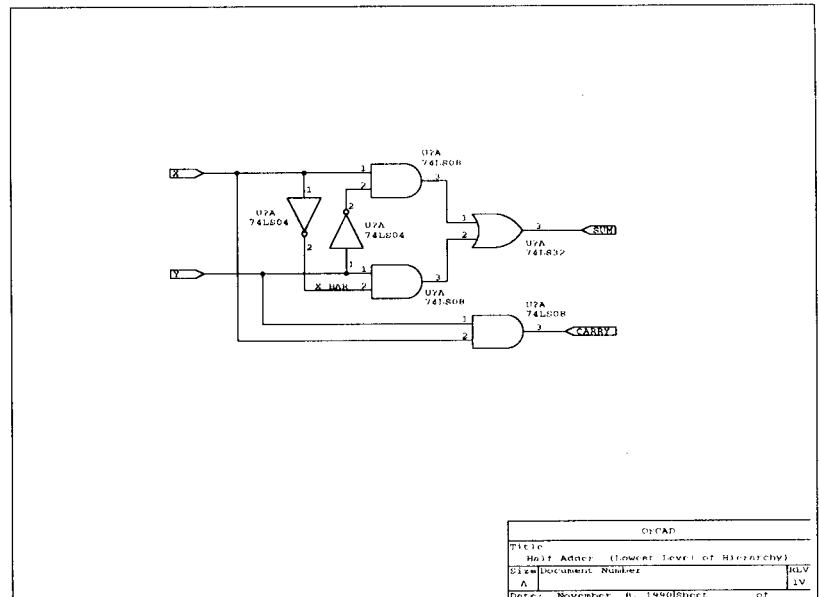

Figure 8-10. Half-adder worksheet.
2. Place the pointer inside one of the sheet symbols and select **Enter**. **Draft** displays the worksheet referred to by the selected sheet symbol. Figure 8-10 shows the half-adder circuit.